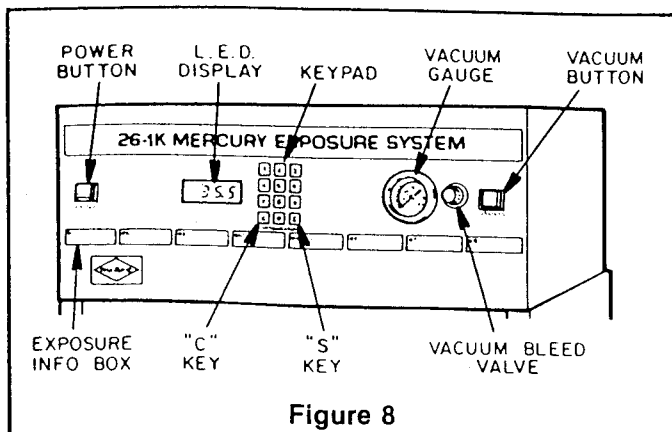

Figure 8
2. Explanation of Control Panel—See Figure 8. The control panel on the 26-1K Exposure Module has a precision, built-in light integrator that works in conjunction with the photo detector to compensate for voltage fluctuations or light fall-off due to lamp aging. This system makes sure that every plate or proof gets the exact units of light that are programmed into it. NOTE: "Units of light" or "light units" refers to the amount of light needed to expose a particular material. Use a plate exposure guide to determine the proper exposure for the material you are using. 60 units of light is a good starting point. Remember, the nuArc integrator system is not a "timer," it simply measures the light units and gives you precise exposure every time.
3. Look at Figure 8 to familiarize yourself with the features on the control panel.